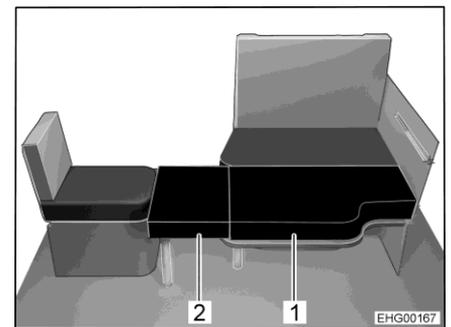

Fig. 70 After conversion
Together with the individual seat on the side and the lowered table top of the suspension table, the divan can be converted into an additional bed. Two additional cushions (Fig. 70,2) is equipped with a fold-out footrest and an angle bracket. The other additional cushion (Fig. 70,1) is placed on the table top.
- Fold footrest out on the smaller additional cushion (Fig. 70,2).
- Hook angle bracket of the additional cushion (Fig. 70,2) into individual seat and place additional cushion on the table top.
- Place the second additional cushion (Fig. 70,1) on the table top.